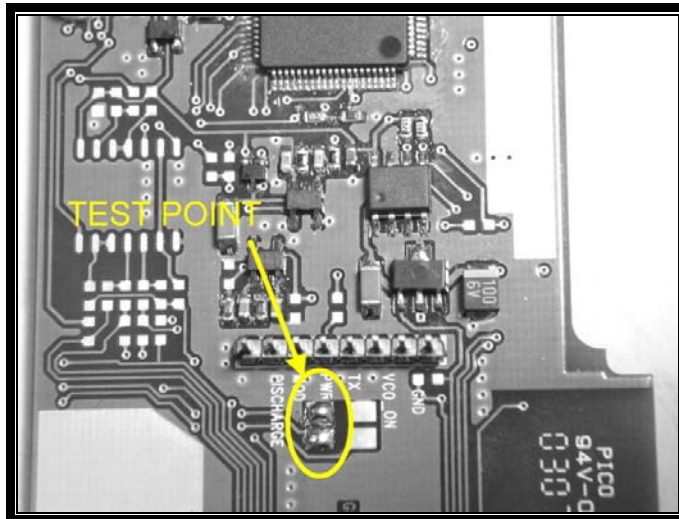

figure 1
1. Make test point short. Reference figure1 "test point position"